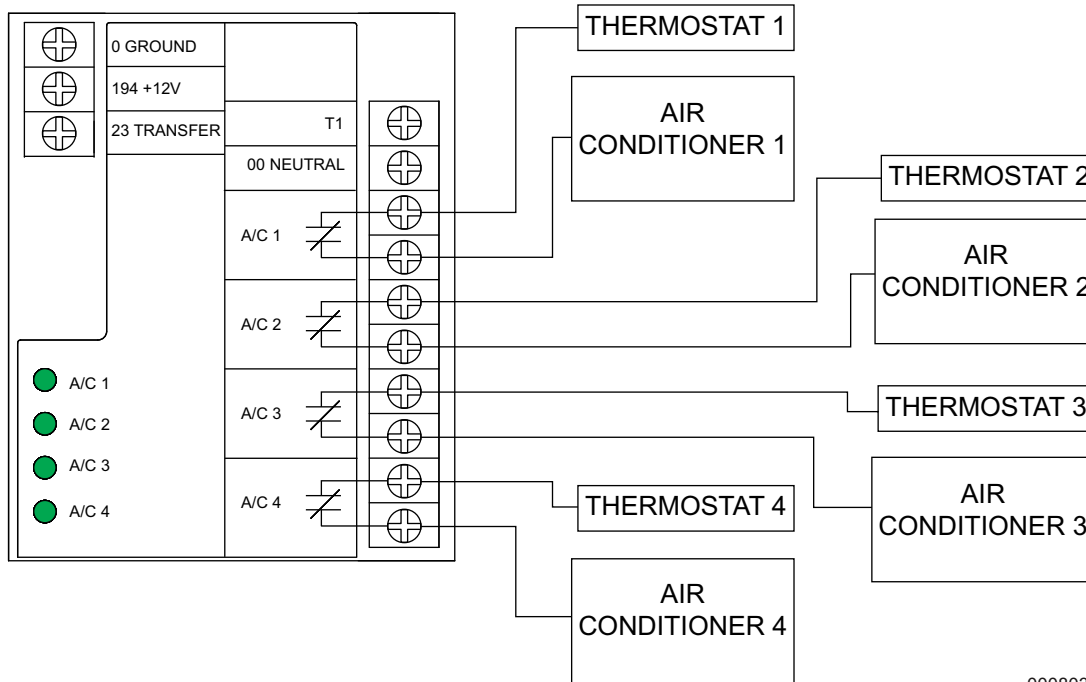

Figure 3-1. Typical Smart A/C Connections
The Smart A/C Module can control an air conditioner (24 VAC) directly. See Figure 3.1.
2. Connect the wire to the terminal strip terminals (A/C 1) on the Smart A/C Module as shown in Figure 3.1. These are normally closed contacts which open upon load shed conditions. Route thermostat wire away from high voltage wires.